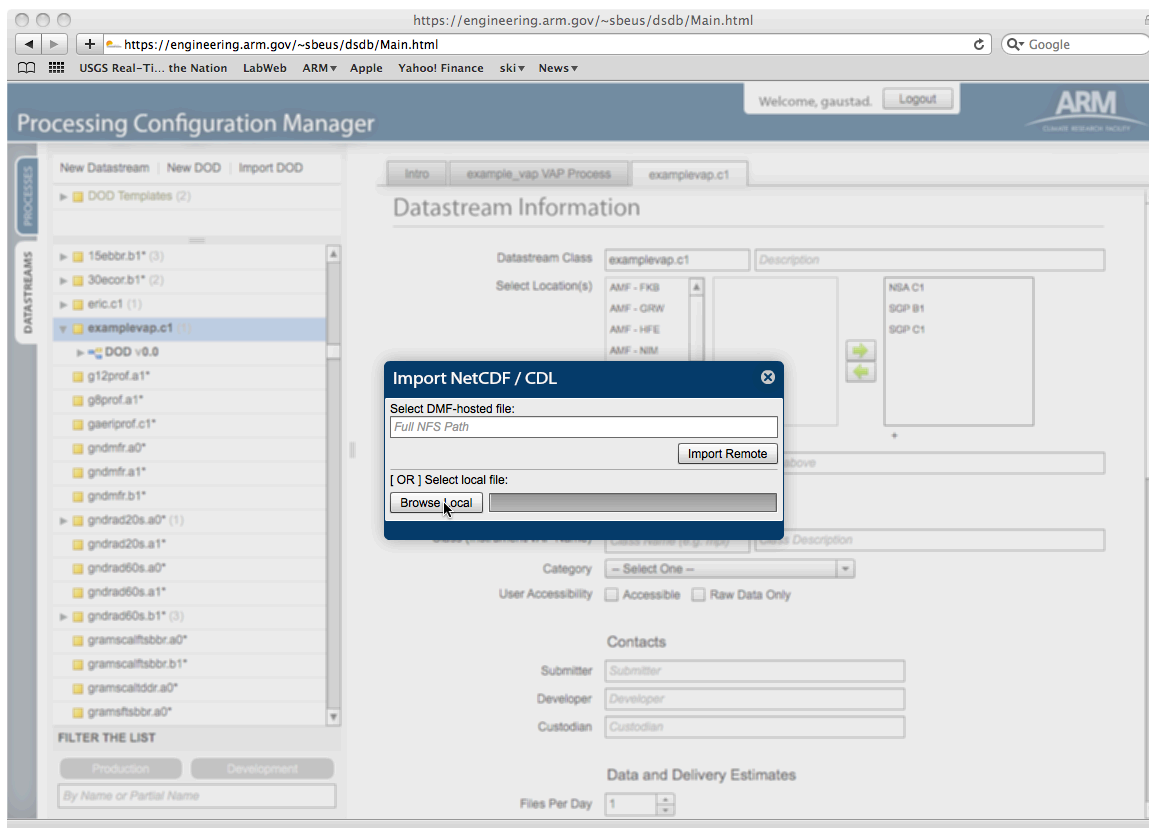

Figure 5.3. Import DOD from netCDF file on Local Computer
- Select the 'Browse Local' button to find the netCDF file located on your local computer to use a template for the VAP's DOD (see Figure 5.3).